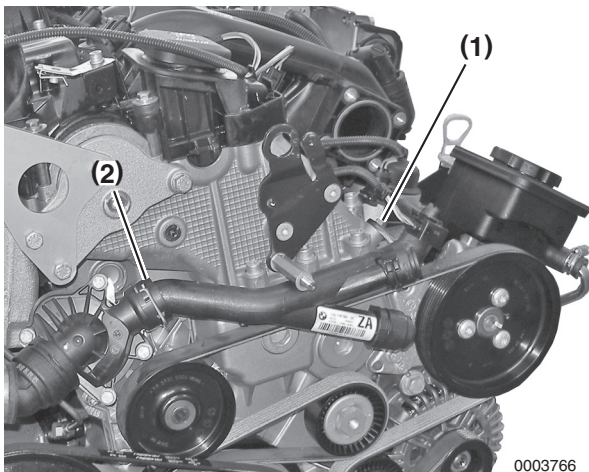

Figure 5-11
13. Remove oil cooler return pipe screw (**Figure 5-11, (1)**).
14. Release the locks and disconnect coolant return pipe (**Figure 5-11, (2)**). See *Disconnect and Connect Quick-Connect Fittings on page 7-11*.